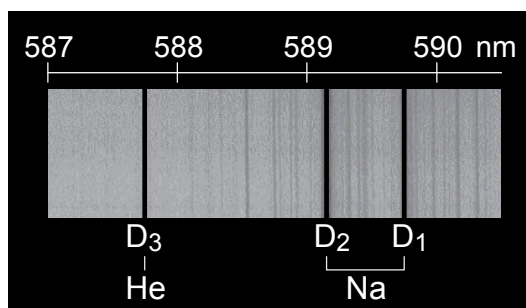

Figure 1. Spectral lines around 588 nm
Ramsay and Clève discovered helium in cleveite (a mineral consisting of uranium oxide and oxides of lead, thorium, and rare earths; an impure variety of uraninite) independently and virtually simultaneously in 1895. The gas extracted from the rock showed a unique spectroscopic line at around 588 nm (indicated by D₃ in Figure 1), which was first observed in the spectrum of solar prominence during a total eclipse in 1868, near the well-known D₁ and D₂ lines of sodium.
- c) Calculate the energy E [J] of a photon with the wavelength of the D₃ line of helium shown in Figure 1.
According to Figure 1, the wavelength of the D₃ line is approximately 587.7 nm (no punishment if 587.8 or 588 is used).